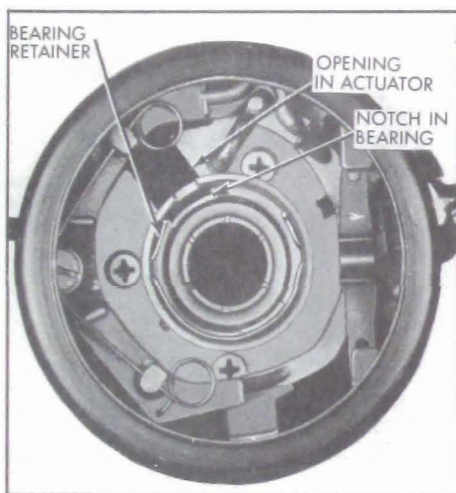

Figure 8-91—Bearing and Retainer Installation
19. Place bearing in actuator housing so that it is located as shown in Figure 8-91. Install bearing retainer so that it engages slots in actuator. See Figure 8-91.